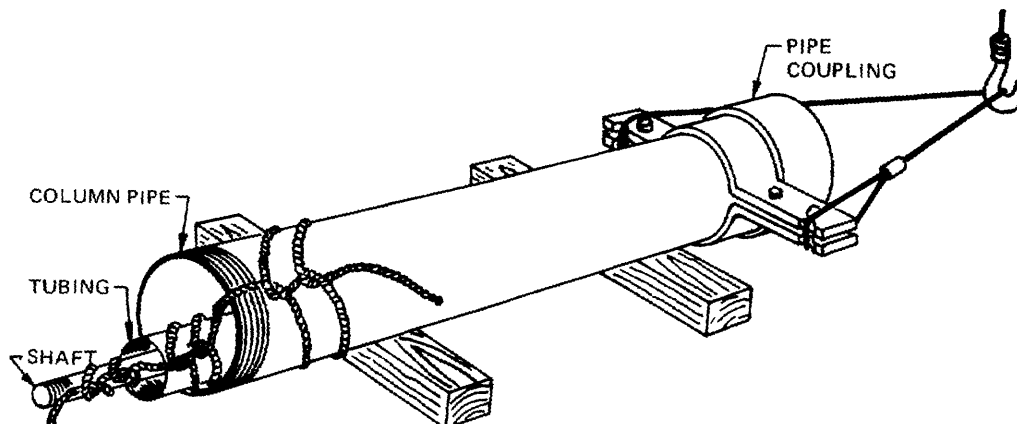

FIG 3. — COLUMN SECTION RIGGED FOR LIFTING.
3. Slide the tubing and shaft assembly into the lower end of the pipe, allowing the tubing to protrude about 15" past the lower end of the column pipe and allowing the shaft to protrude about 9" past the end of the tubing. SEE FIG. 3. Tie a series of half hitches to the pipe tubing and shaft with 3/4" rope so as to prevent the shaft and tubing from sliding out of the pipe when the assembly is hoisted to the vertical position. Attach a sling to the clamp ears.